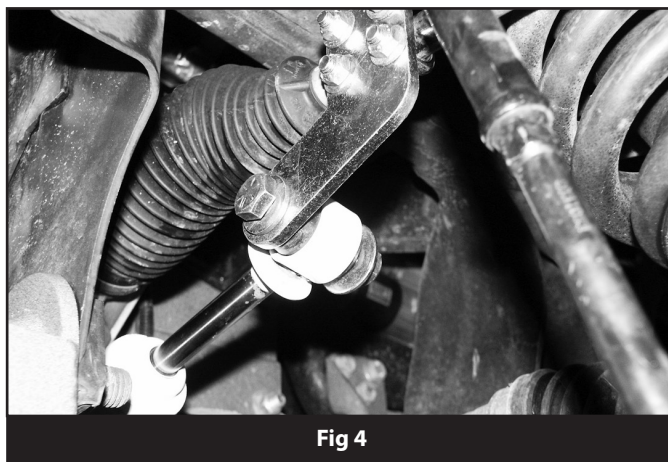

Fig 4
6. Loosely install the rod end of the stabilizer cylinders to the tie rod brackets with  $\frac{1}{2}$ " x  $2\frac{1}{2}$ " bolts, nuts and  $\frac{1}{2}$ " washers. Use a SAE (small) washer at the bolt head and a USS (large) washer at the threads (Fig 4) The cylinders mount to the back surface of the brackets, the bolt heads should be to the front of the vehicle.